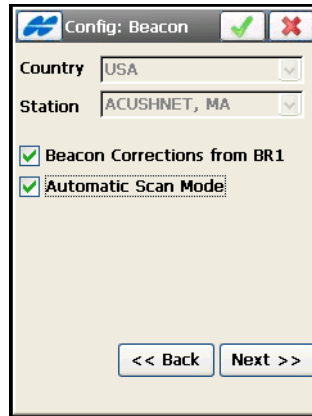

Figure 4-54. Use BR-1
- To use the beacon receiver BR-1 as a source of differential corrections for the rover, select *Beacon Corrections from BR-1* option on the **Config: Beacon** screen (Figure 4-54 on page 4-45).